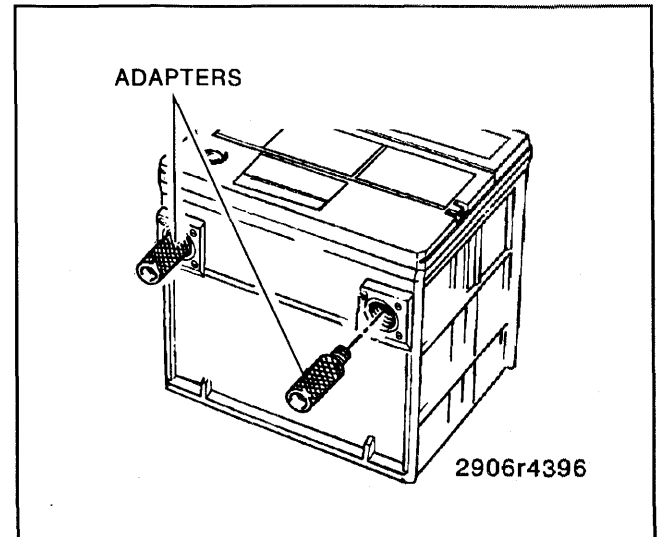

Figure 5—Battery Terminal Adapters
- Load testing requires the use of battery side terminal adapters (figure 5), (GM P/N 12303040 or equivalent) to ensure good connections. Do not load test a frozen battery. Replace it instead.